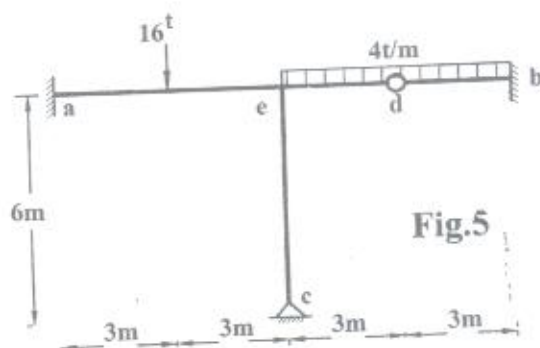

Fig.5
- a. Fig. 5 shows the expected cracks (1 to 14) on a beams and a cantilever under a different case of loadings. What are the reasons of occurrence the cracks shown? How the Egyptian Code equations resisting the cracks shown in case 6 of a corbel? What are the precautions of the reinforcement details of the corbels? (8Marks)